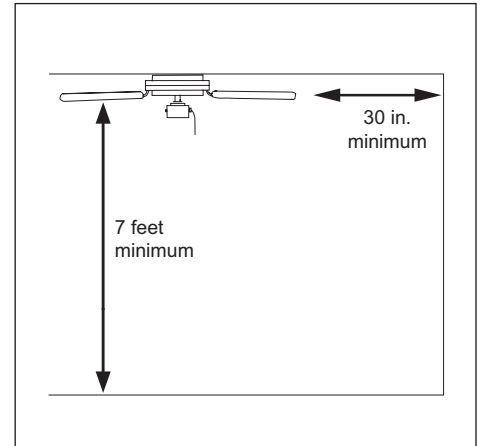

Figure 1.3
3. When selecting a location for installation, ensure the blades will be at least 30 inches from any wall or obstruction and at least 7 feet above the floor (Figure 1.3).